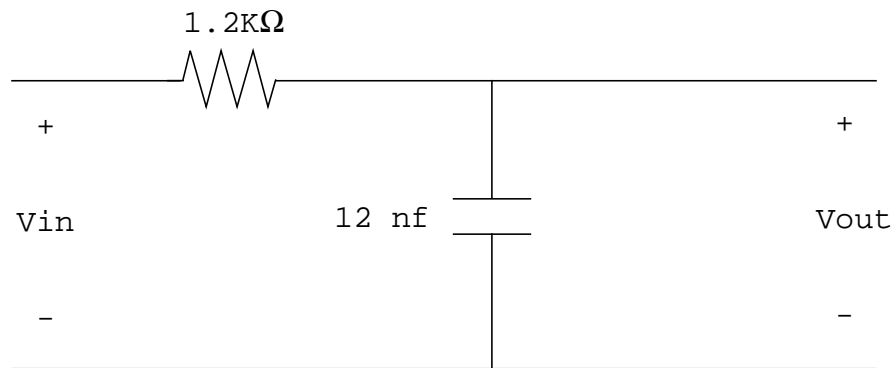

Figure 1.
- L-2. Using the given Sinusoidal Signal Generator and an oscilloscope, apply and MAINTAIN a +10-10 volt signal to the input of the circuit in Figure 1. Vary the frequency of the generator until the voltage across the capacitor is +7-7 volts. Record this frequency (which is called the "break" or "bandpass" frequency of the circuit).
- L-9. Using the given Pulse Generator and an oscilloscope, apply a +10-0 volt, 50 percent duty-cycle pulse signal to the input of the circuit in Figure 1. Vary the frequency of the input signal until the maximum voltage across the capacitor just reaches approximately +10 volts. Adjust the oscilloscope until a good measurement of the rise-time of the signal across the capacitor can be obtained. Record the rise-time.